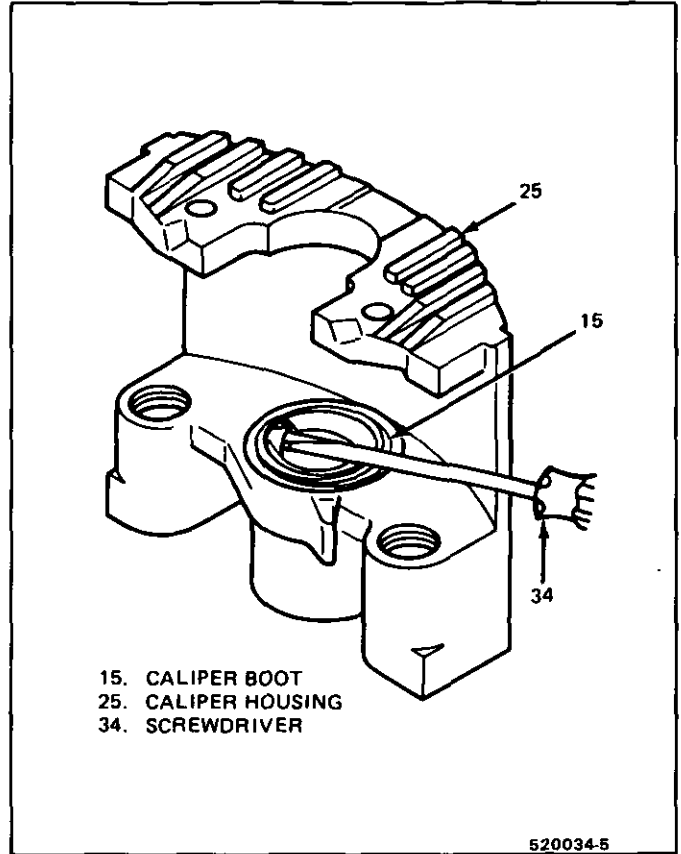

Fig. 11 Removing Boot
7. Boot (18) as shown in Figure 11, being careful not to scratch housing bore (25).
8. Piston seal (18) from groove in caliper bore with a piece of wood or plastic. Do not use a metal tool as damage to the bore may result.